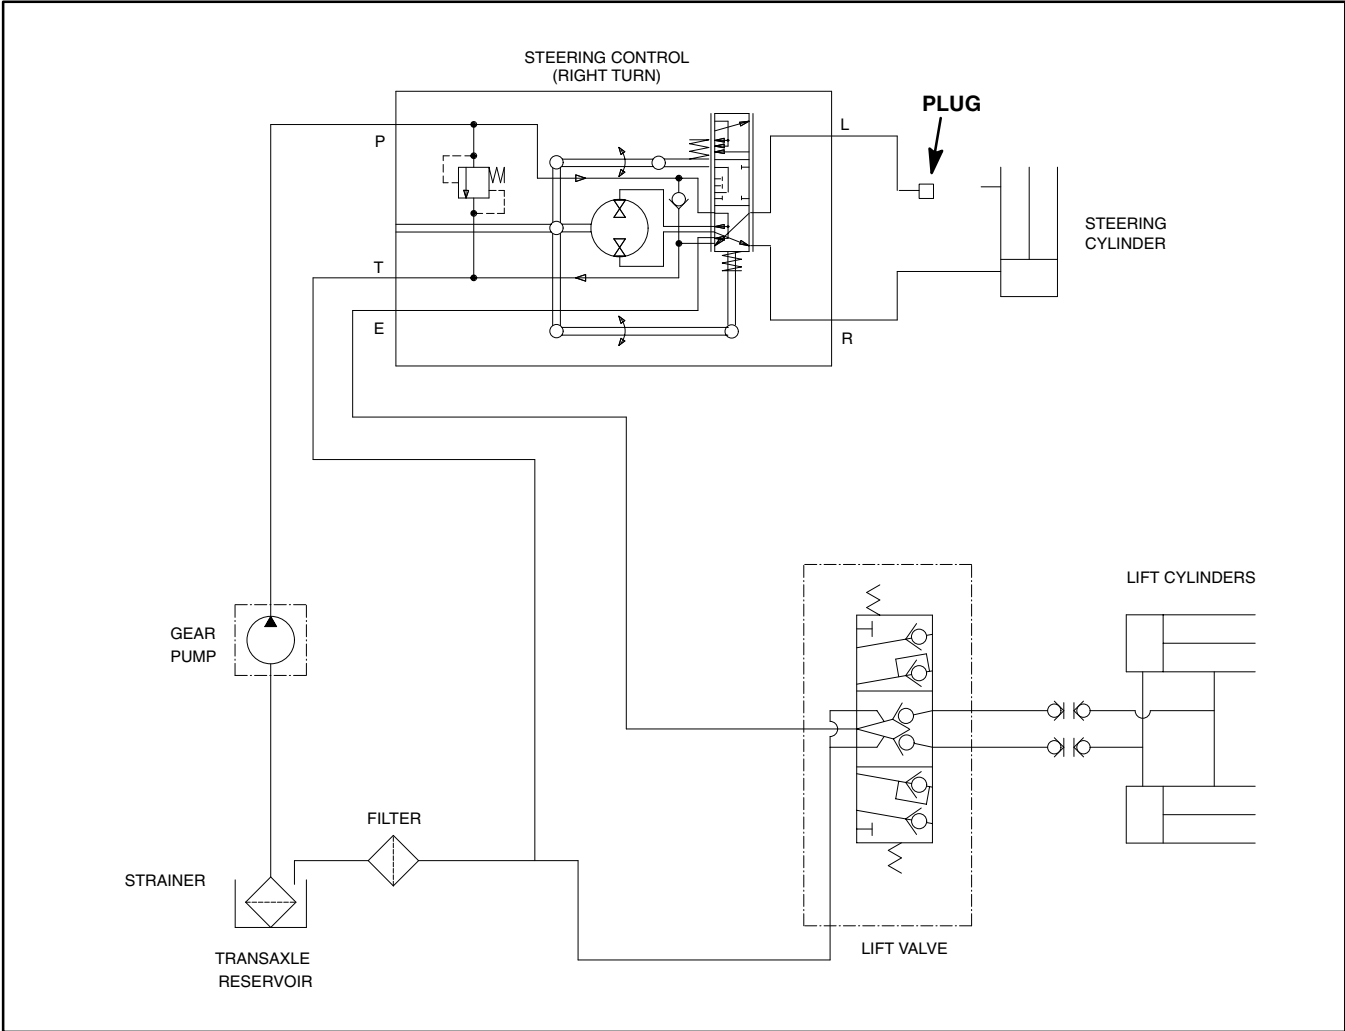

Figure 15
E. Clean and remove hydraulic hose from the fitting on the rod end of the steering cylinder. Plug the end of the disconnected hose (Fig. 15).